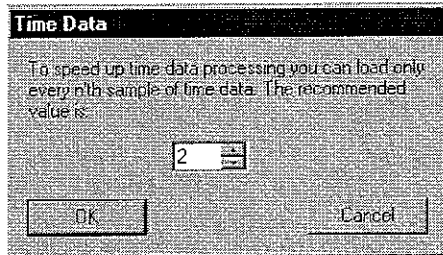

Figure 9.10: Dialog for reducing the time data step size
- ☞ If you click Cancel during resorting, the dialog to reduce the time data step size opens again (refer to figure 9.10).